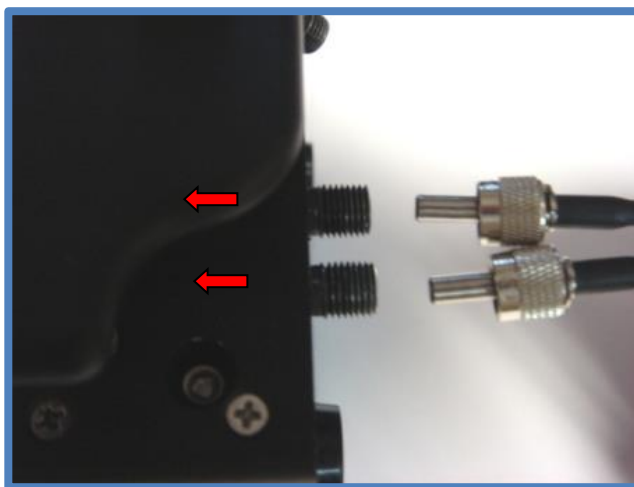

Figure 4. Connecting the bifurcated fiber optic cable to the leaf probe
2. **Connect the bifurcated fiber optic cable to the leaf probe.** Hold the end of the cable with two connectors (SMA 905 connectors) and insert both connectors to the light source ports, as shown in Fig. 4. Tighten the screws of the fiber optic cable to the leaf probe.